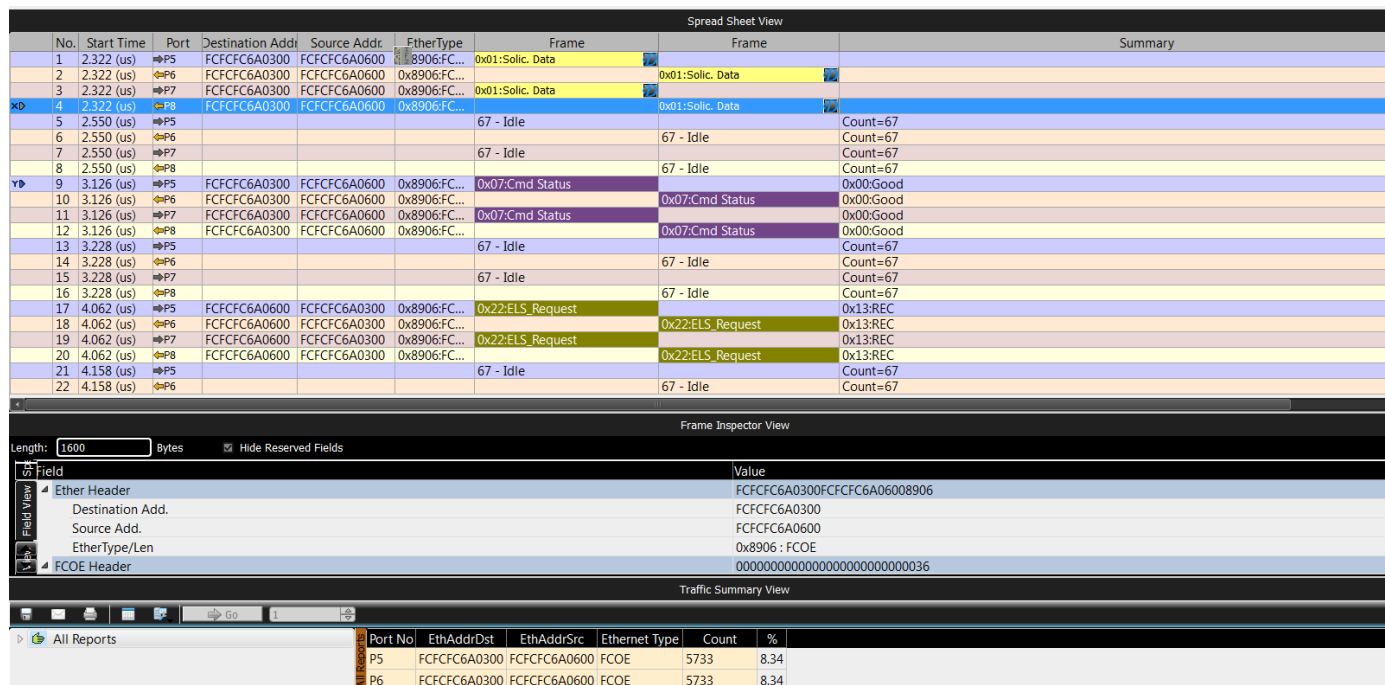

Figure 2.50: Analyzer Trace Capture Display.
5. After the project runs, you see an analyzer trace capture display (see Figure 2.50 on page 71).